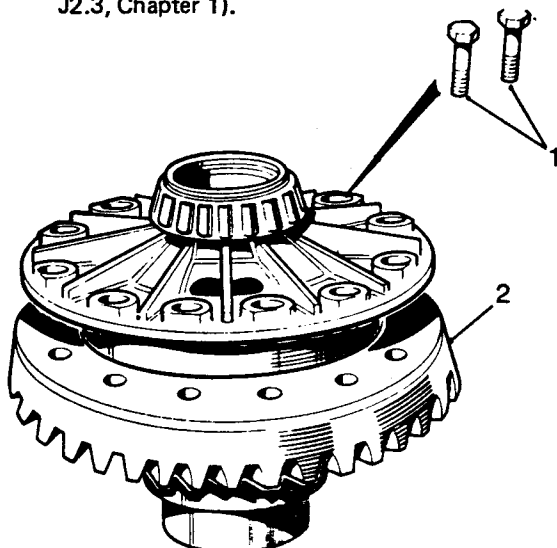

Fig J2.19
(2) Refer to Fig J2.19. Remove the fixings (1) and withdraw the crownwheel (2).